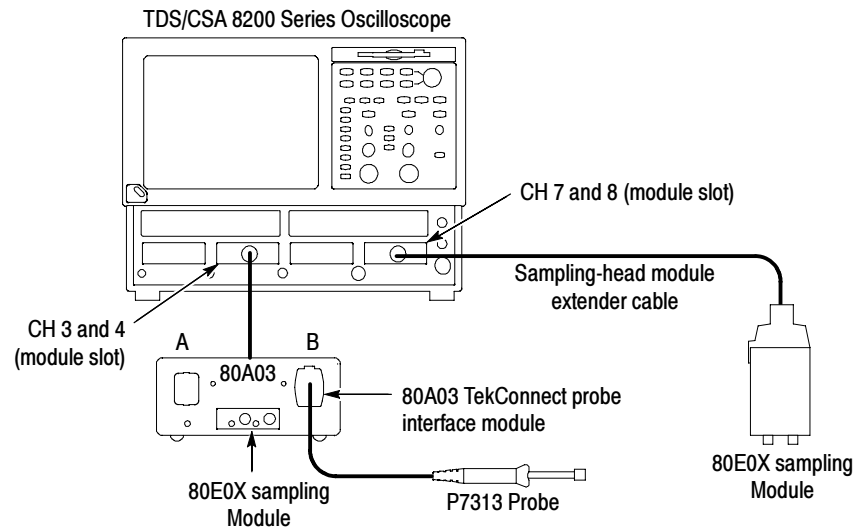

Figure 12: Preliminary test setup
1. Connect the 80A03 TekConnect probe interface to the channel 3 and 4 slot of the TDS 8200 oscilloscope. See Figure 12.